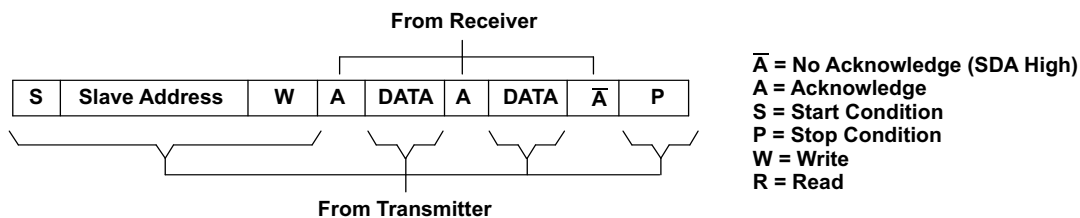
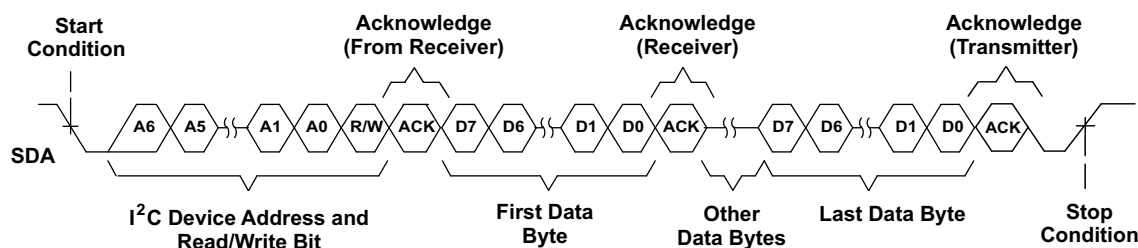
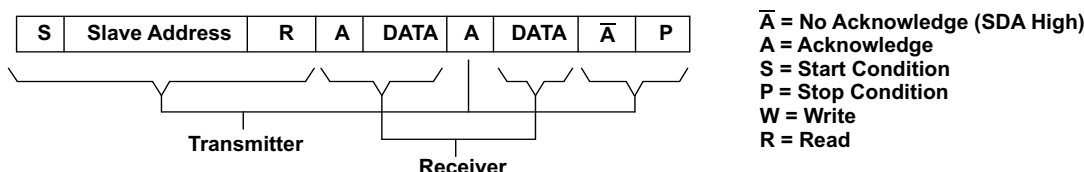
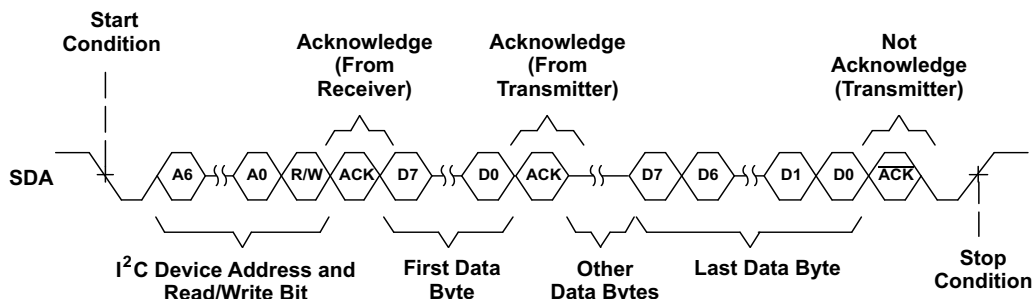

Figure 74. I²C Write Cycle
Figure 75. Multiple Byte Write Transfer
Figure 76. I²C Read Cycle
Figure 77. Multiple Byte Read Transfer
During a write cycle, the transmitting device must not drive the SDA signal line during the acknowledge cycle, so that the receiving device may drive the SDA signal low. After each byte transfer following the address byte, the receiving device pulls the SDA line low for one SCL clock cycle. A stop condition is initiated by the transmitting device after the last byte is transferred. An example of a write cycle can be found in Figure 74 and Figure 75. Note that the THS7303 does not allow multiple write transfers to occur. See example section – Writing to the THS7303 for more information.
acknowledges data bytes sent by the slave. When the master has received all of the requested data bytes from the slave, the not acknowledge (\bar{A}) condition is initiated by the master by keeping the SDA signal high just before it asserts the stop (P) condition. This sequence terminates a read cycle as shown in Figure 76 and Figure 77. Note that the THS7303 does not allow multiple read transfers to occur. See example section – Reading from the THS7303 for more information.
The THS7303 operates using only a single byte transfer protocol similar to Figure 74 and Figure 76. The internal subaddress registers and the functionality of each are found in Table 2. When writing to the device, it is required to send one byte of data to the corresponding internal subaddress. If control of all three channels is desired, then the master has to cycle through all the subaddresses (channels) one at a time, see the example section –*Writing to the THS7303* for the proper procedure of writing to the THS7303.